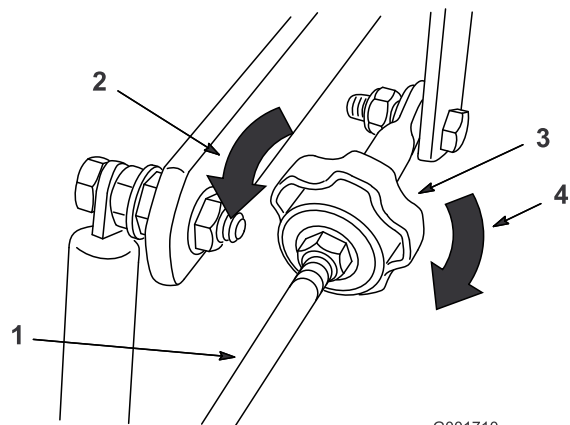

Figure 58
4. To make the machine go right, turn the knob towards the rightside of the machine. Refer to Figure 58.
5. To make the machine go left, turn the knob towards the leftside of the machine. Refer to Figure 58.